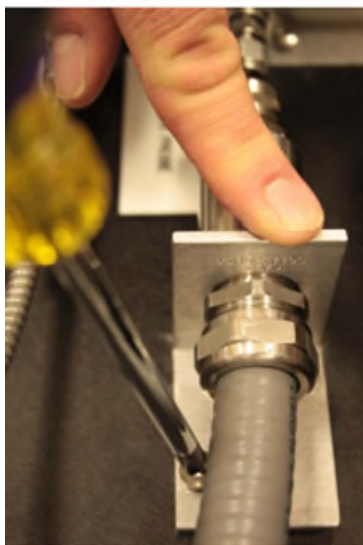

Figure 9. Oxygen probe bracket installed
6. Secure the bracket using a Phillips screwdriver to install the screws (x 2) in the pre-drilled holes on the remote panel. Refer to Figure 9.
12. Secure the bracket using a Phillips screwdriver to install the screws (x 2) in the pre-drilled holes on the remote panel. Refer to Figure 9.